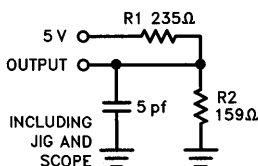

Figure 1b
- $t_{HZCS}$  is tested with load shown in Figure 1b. Transition is measured at steady state High level - 500 mV or steady state Low level + 500 mV on the output from the 1.5V level on the input.